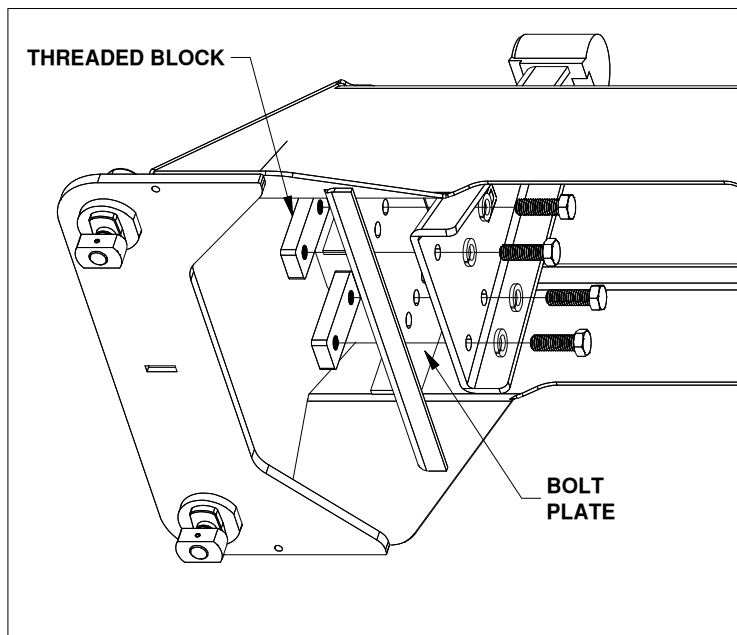

FIGURE A2: Passenger pivot arm mounting location.
2. Locate both pivot arms, the four threaded blocks, eight 1/2" cap screws, and eight 1/2" split lock washers. Place the lock washers over the cap screws. Align the flat side of the pivot arm flat against the bolt plate and install four 1/2" cap screws through the holes on the arm, holding the arm in place, as shown in figure A2. Pass the threaded blocks under the bases side and align the block with each set of screws and start each screw, as shown in figure A2. After all the screws are started through the arms, torque each bolt to 80 ft-lbs.